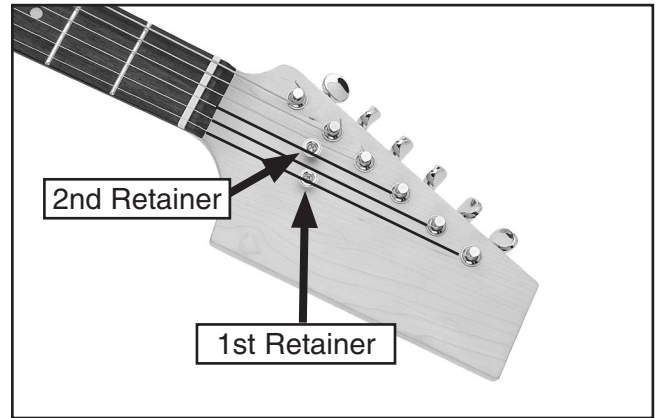

Figure 33. String retainer locations.
The string retainers mount between the 1st and 2nd strings and between the 3rd and 4th strings (**Figure 33**). String retainers are designed to hold the strings down against the nut to achieve correct tuning.
3. Slide a 2.5 x 14mm screw through the retainer and fasten it to the headstock (**Figure 33**).